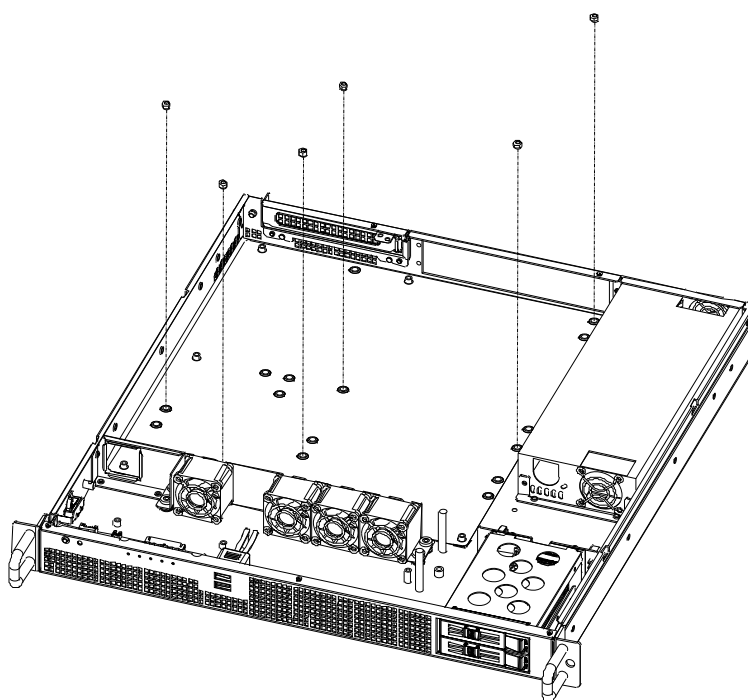

Figure 2.3 Fastening the stub copper / 固定铜柱 / 固定銅柱
1. A yellow label is located on the top cover. (see Figure 2.2) It shows the stub copper location for attaching the specific EATX/ATX/MicroATX motherboard. Users can find the stub copper in the accessory box (see Figure 2.3). Lock the stub copper into the correct location and then rotate counterclockwise to fasten it onto the chassis.
1. 在机箱上盖有一个黄色贴纸（如图 2.2 所示）。此贴纸标示了用于安装特定 EATX/ATX/MicroATX 主板的铜柱的位置。用户可以在附件盒里找到铜柱（如图 2.3 所示）。将铜柱锁入相应的位置，然后沿逆时针方向旋转将它固定在机箱上。